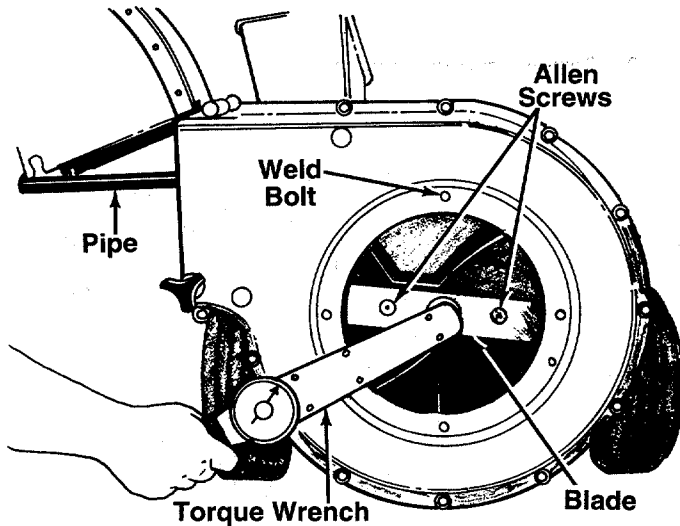

FIGURE 15.
2. Lower the hopper assembly. Block up the housing. See figure 15.